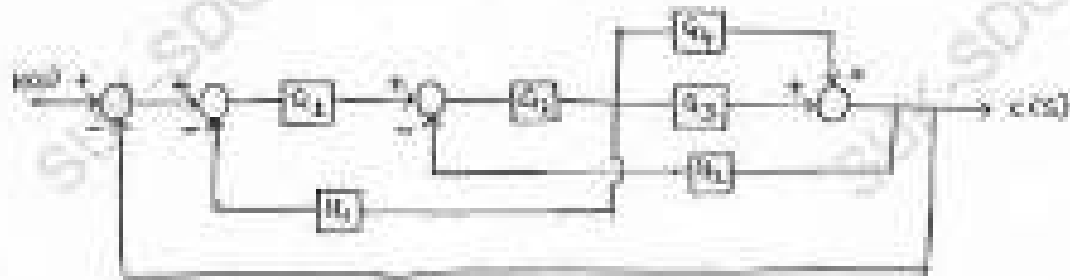

Fig. 2. 1.
- b) Reduce the block diagram shown in Fig. 2 b and find transfer function. [8]
- 4) Fig. 2 below shows an epicyclic gear train. Pinion A has 15 teeth and is rigidly fixed to the motor shaft. The Wheel B has 30 teeth and gears with A, and also with annular fixed wheel D. Pinion C has 15 teeth and is integral with B (C, B being a compound gear wheel). Gear C meshes with annular wheel E, which is keyed to the machine shaft. The axis rotates about the same shaft on which A is fixed and carries the compound wheel B, C. If the motor runs at 1400 rpm, find the speed of the machine shaft. Find the torque exerted on the machine shaft if motor develops a torque of 100 Nm. [10]